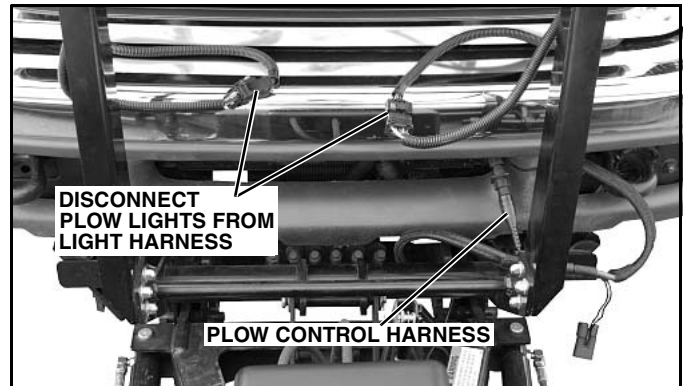

Figure 1-24
2. Disconnect the plow lights from the truck light harness. (See Figure 1-24). Disconnect the plow control harness and replace the protective cap. (See Figure 1-26 or 1-27).